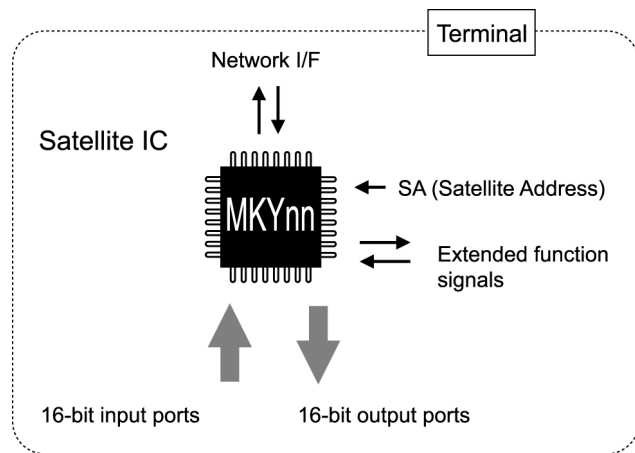

Fig. 5.2 Satellite IC
- ◆ The satellite IC has a network I/F, 16 input pins, and 16 output pins (Fig. 5.2). Some satellite ICs have combined 16 input and 16 output pins.